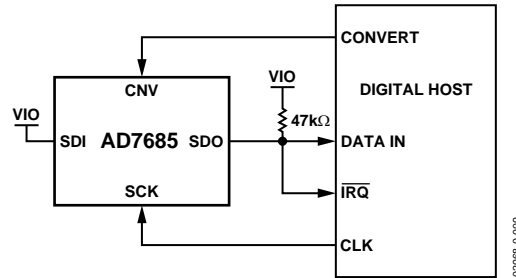
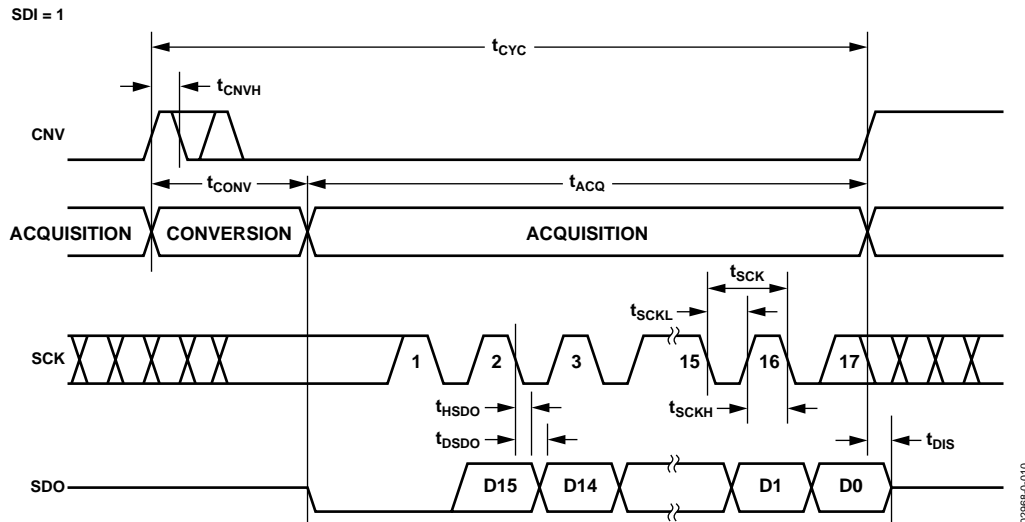

Figure 35.  $\overline{\text{CS}}$  Mode 3-Wire with *BUSY* Indicator Connection Diagram (SDI High)
Figure 36.  $\overline{\text{CS}}$  Mode 3-Wire with *BUSY* Indicator Serial Interface Timing (SDI High)
- In the  $\overline{CS}$  mode, if CNV or SDI is low when the ADC conversion ends (Figure 36).
The connection diagram is shown in Figure 35 and the corresponding timing is given in Figure 36.